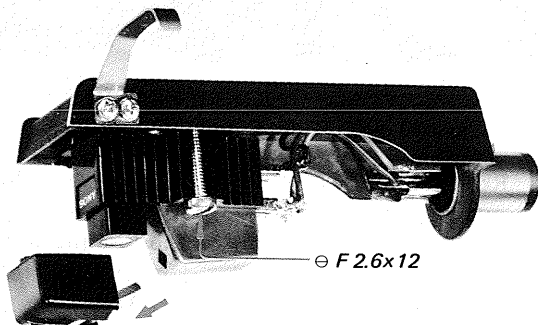

Fig. 2-4. Stylus tip and cartridge removal
1. Pull out the worn stylus tip and install the replacement tip as shown in Fig. 2-4.
2. Remove the two screws (⊖ F 2.6 × 12) (see Fig. 2-4) securing the cartridge to the shell head with a jeweler's screwdriver.